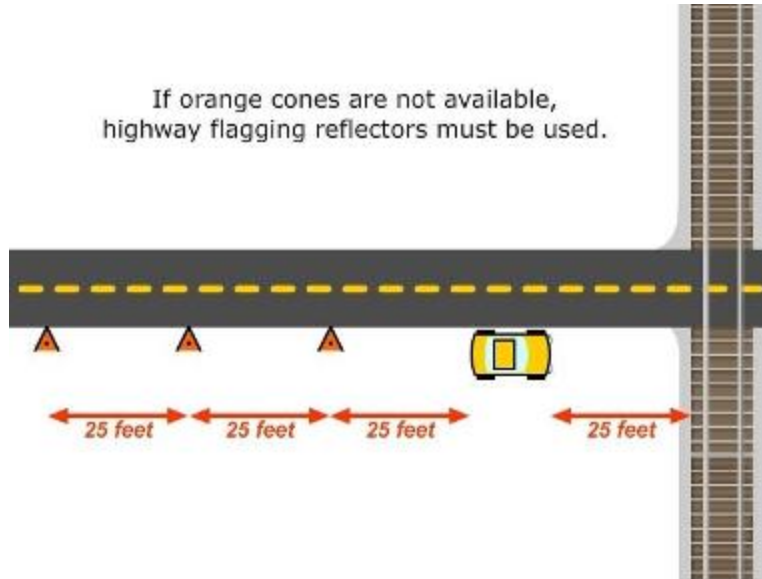

Fig. 1
1. Park on the shoulder on the same side of the road where the work will be done (see Fig. 1). If there is no shoulder, it will be necessary to park in the roadway. Park the vehicle in the lane nearest the edge of the road 25 feet in approach of the work area. If work to be performed is off to the side of the roadway, park vehicle 25 feet in approach of the crossing such that vehicle positioning will block access to the work area.